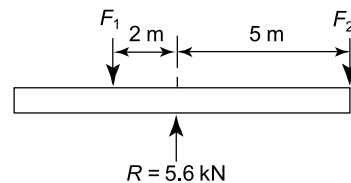

Figure RT3.1
- Determine by resolution of forces the resultant of the following three coplanar forces acting at a point: 120 N acting at 40° to the horizontal; 250 N acting at 145° to the horizontal; 300 N acting at 260° to the horizontal. (8)
- A moment of 18 N m is required to operate a lifting jack. Determine the effective length of the handle of the jack (in millimetres) if the force applied to it is (a) 90 N (b) 0.36 kN . (6)
- For the centrally supported uniform beam shown in Figure RT3.1, determine the values of forces F_1 and F_2 when the beam is in equilibrium. (7)